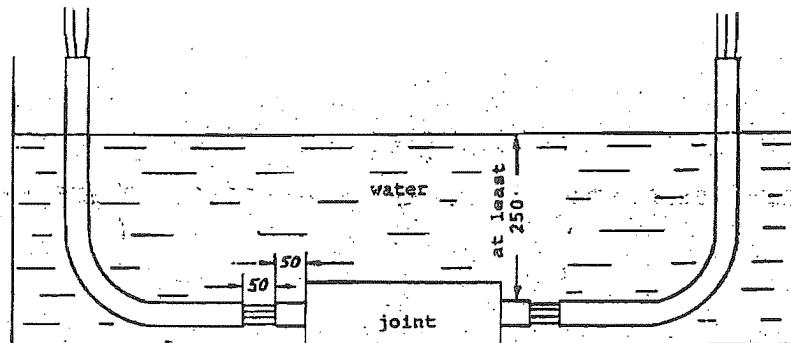

Fig. 11 Schematic Arrangement for water tightness test of joints in the water bath
- Then the joints were arranged in a water-filled tank so that the distance between the upper side of cable and the water level was at least 250 mm with the insulation extending at least 10 cm out of the water (see Fig. 11).